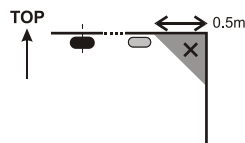

Fig 4
**the room** (always keep at least 0.5 m distance from the corner) see Fig 4. There is an insufficient circulation of air in the corners.